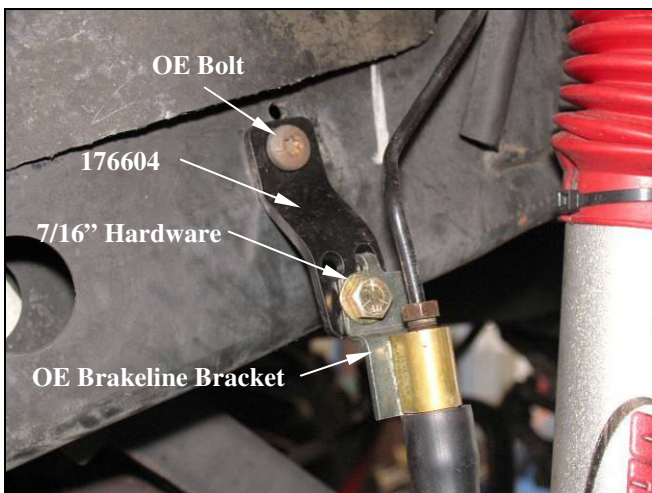

Figure 9
- 3)  Attach bracket 176604 to the frame reusing the OE self tapping bolt. See Figure 9 for details.